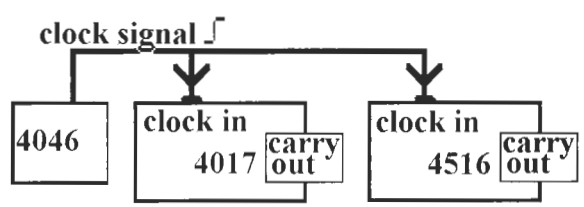

Figure L41-9
1. The 4046 clocks the 4017. Now connect the 4017’s carryout to the clock input of the 4516 as shown in Figure L41-9. Think about it. Try to explain what is happening.